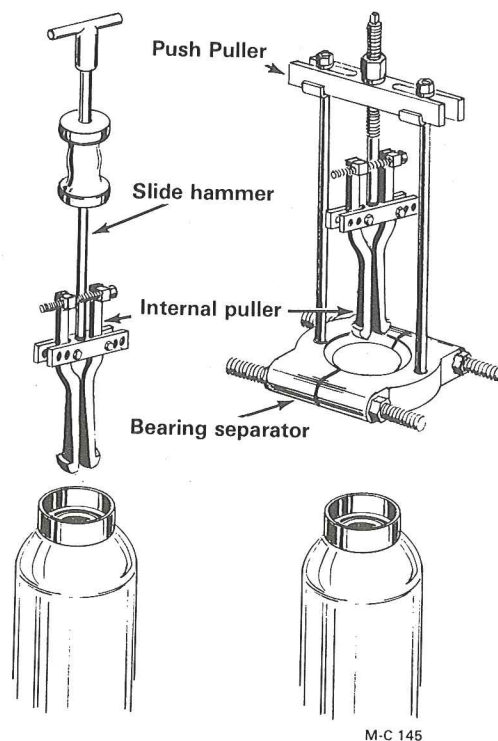

Figure 19
3. Remove the bearing from the end of the gauge roller using an internal bearing puller, like those shown in Figure 19.